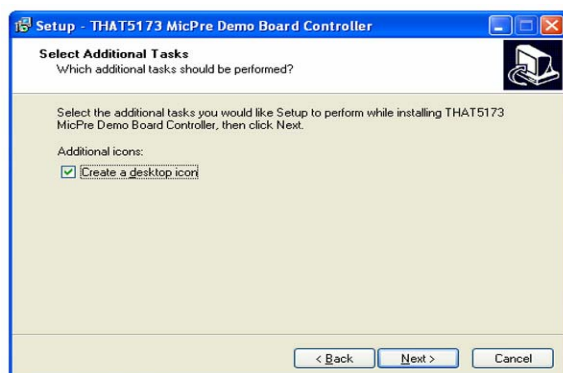

Figure 8. Selecting a desktop icon
7. Now Windows asks if you want a Desktop icon (Figure 8). We will leave that to you to decide (this is your homework). Once you've made your decision, click NEXT.